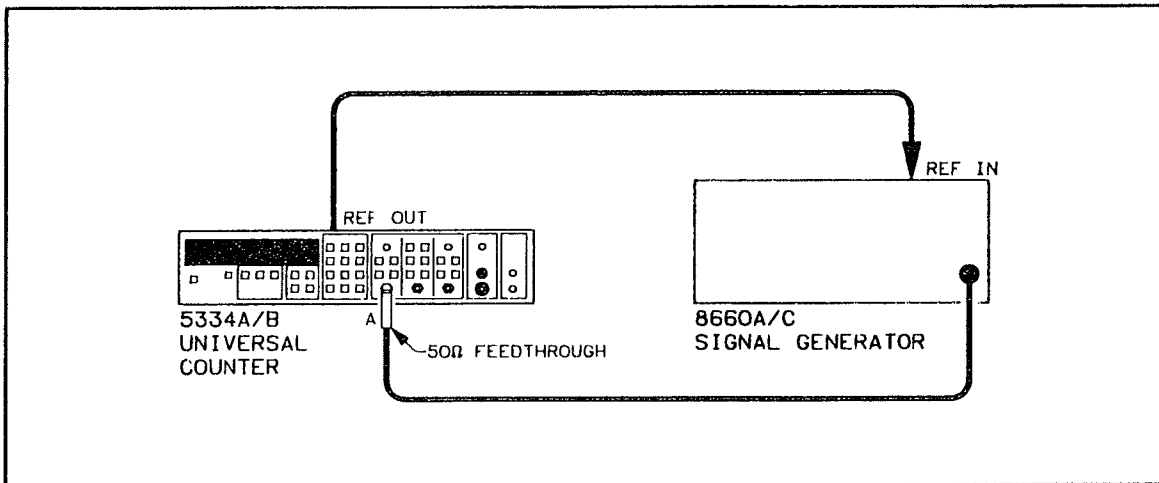

Figure 4-8. Period A Test Setup
- Connect the signal generator output to the HP 5334A/B Input A using a 50 Ohm feedthrough connector as shown in Figure 4-8.